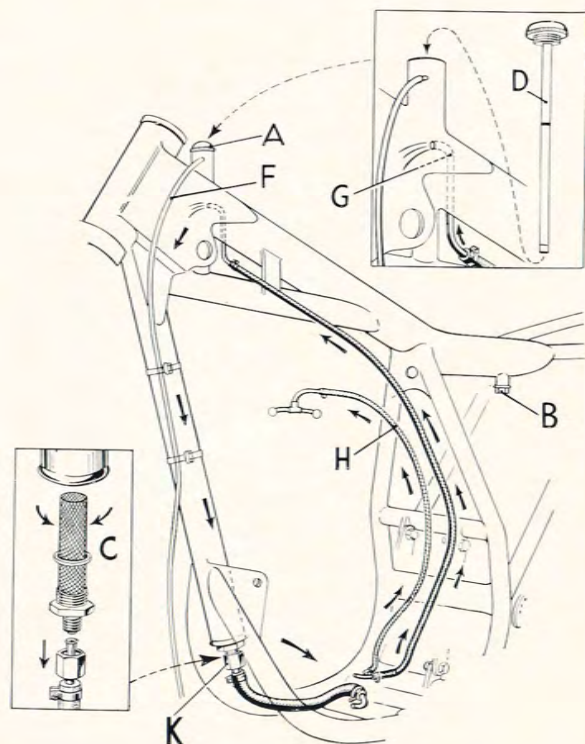
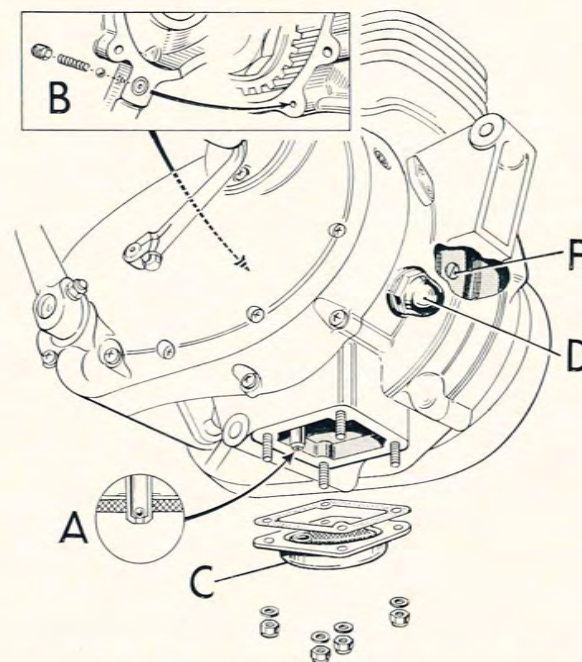

Fig. 5. The lubricating system showing the pipe lines, filters, etc.
Fig. 6. The engine lubrication system showing the ball valves.
The lubrication system is of the dry sump type and is operated by a double gear-pump situated in the bottom of the crankcase on the right-hand side. Oil is drawn from the reservoir by the supply pump and is then delivered past the non-return valve (B) Fig. 6, through a duct in the mainshaft to the big-end.
After lubricating the motor, the oil drains through a filter to a small sump in the bottom of the crankcase, from which it is drawn by the scavenge pump past the non-return valve (A) Fig. 6, and delivered to the oil reservoir. If the filler cap (A) Fig. 5, is removed while the motor is running, the returning oil should be seen issuing from the pipe (G) Fig. 5, below the filler neck. The flow of oil will in all probability contain air bubbles, but this is a normal condition due to the larger capacity of the return pump. **If there is no flow from the pipe, stop the motor immediately and investigate the cause** (see "Pump Ball Valve", page 14).
A by-pass pipe (H) Fig. 5, leads a supply of oil to the rockers, push rod ends, etc.
The valve (B) Fig. 6, prevents oil transfer from the reservoir to the crankcase while the machine is not in use and, together with the flywheel centrifugal filter (F), does not require attention until such time as the motor is completely dismantled.
A by-pass valve (D) Fig. 6, limits the pressure in the lubricating system, excess quantities of oil being returned by the scavenge pump to the reservoir. This valve should not be removed until the motor is dismantled for servicing.
This should preferably be carried out immediately after running when the oil is warm and will, therefore, flow more freely. Remove the filler cap (A) Fig. 5 Unscrew the drain plug (B), at the base of the oil reservoir, for which purpose it will be necessary to remove the right side panel. Next, unscrew the filter (C) at the lower end of the front down tube, collecting the oil in a suitable receptacle. Clean the filter (see below) and replace, together with the drain plug.
The oil capacity is $4\frac{3}{4}$ U.S. pints (4 British pints) and the normal level is given on the dipstick (D) Fig. 5, attached to the filler cap.
The crankcase filter is incorporated in the sump plate (C) Fig. 6, which is released following removal of four nuts of the self-locking type.
The main filter (C) Fig. 5, is unscrewed from the bottom of the front down tube following removal of the pipe union nut (K). It is essential that the filter is securely tightened.
The breather pipe (F) Fig. 5, must be examined regularly and maintained clear of any obstruction.
When the crankcase filter is removed for cleaning, it is a good opportunity to check the ball valve (A) Fig. 6 carried in the crankcase suction pipe. The ball must be free on its seating. If the ball adheres to its seating, there will not be a return flow of oil to the reservoir and the crankcase may become flooded. Alternatively, if the crankcase contains an excessive quantity of oil this may be due to the ball not seating properly caused by a particle of foreign matter so allowing oil to pass through the pump to the crankcase when the motor is stationary.